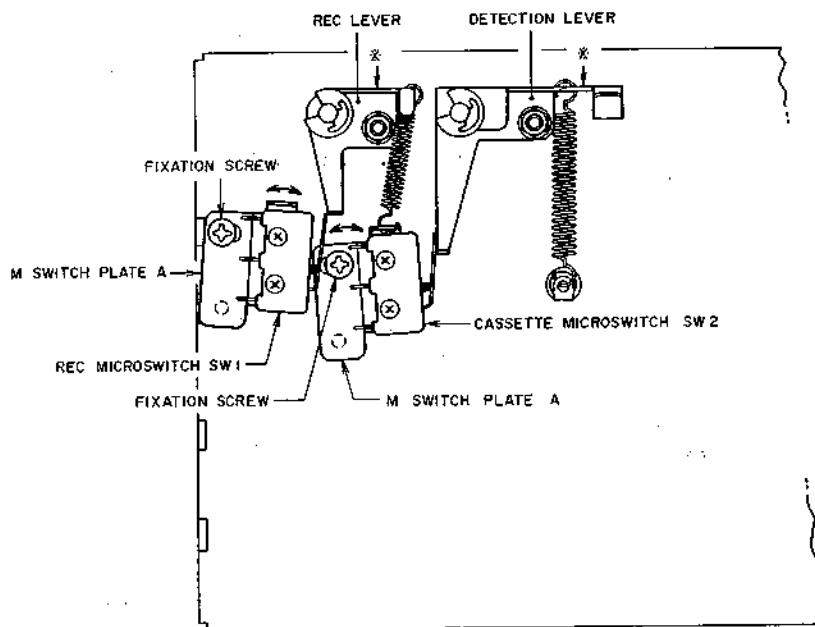

Fig. 10
ACTUATING POSITION (Refer to Fig. 10)
Move M Switch Plate A as indicated by the arrow marks in the figure and adjust so that when the parts of Recording and Detection Levers marked with * mark in Fig. 10 are at a horizontal level, Recording Micro Switch (SW1) and Cassette Micro Switch (SW2) are turned ON respectively. Further, confirm that when a cassette from which the recording safety tabs have been removed is loaded, Recording Micro Switch (SW1) switches, and when the cassette is removed, Cassette Micro Switch (SW2) switches. Tighten fixation screws to maintain ideally adjusted positions of M Switch Plates A.
12) Tape Speed Adjustment (Refer to Fig. 10)
Playback a 1,000 Hz pre-recorded test tape and adjust Servo-Control P.C Board (CB-2025) semi-fixed resistor VR1, 3 k Ω shown in Fig. 10 to obtain a tape speed of 1,000 Hz $\pm 2\%$.